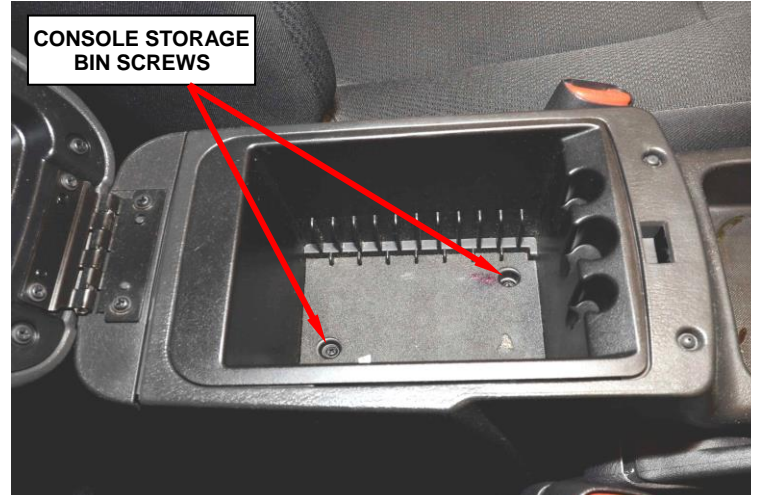

Figure 14 – Console Storage Bin Screws
d. Open the center console and remove and save the two screws at the bottom of the console storage bin (Figure 14).